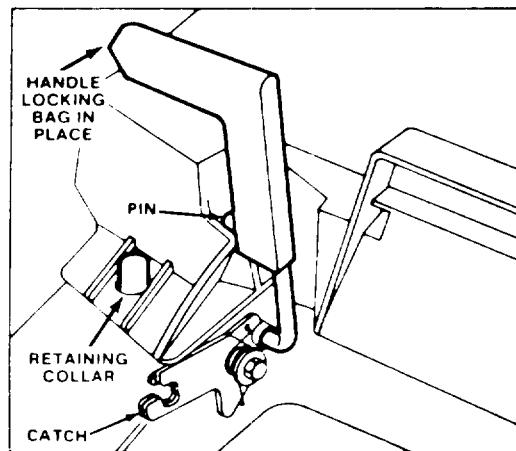

Figure 10
3. **INSTALLING BAG**—Slide hole in bag frame onto retaining collar on housing (Fig. 10) and set rear of bag frame onto lower handle.
4. Pull chute door handle forward until pin clears catch and move handle rearward until pin locks in bag notch (Fig. 10). Chute door in mower housing is now open. It may be necessary to push down on top right of bag door to release handle locking pin from catch.